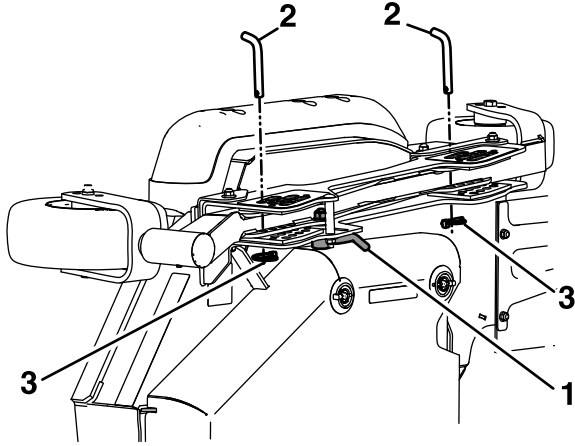

Figure 78
3. Unlock the left and right wing deck cam locks (Figure 78).
4. Remove and retain the wing deck height-of-cut lynch pin (Figure 78).